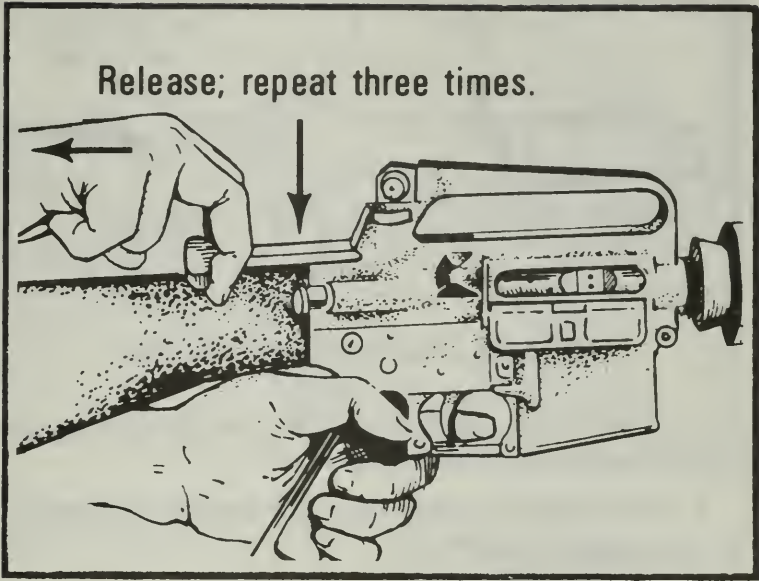

Figure 98. Charging handle.
- c. Pull the charging handle to the rear and let it go. Repeat this three times (Figure 98).